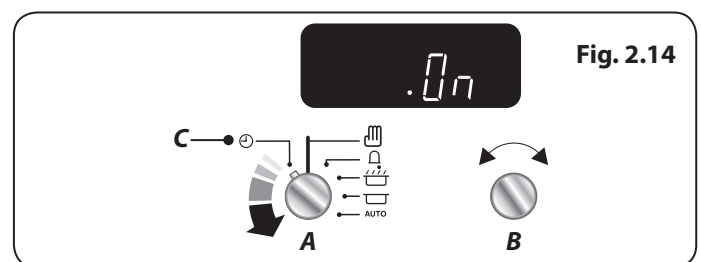

Fig. 2.14
2. Turn the **Timer (A)** knob to the **Clock (C)** setting and hold for approx 8 seconds. The display will show 'ON' (**Fig. 2.14**).